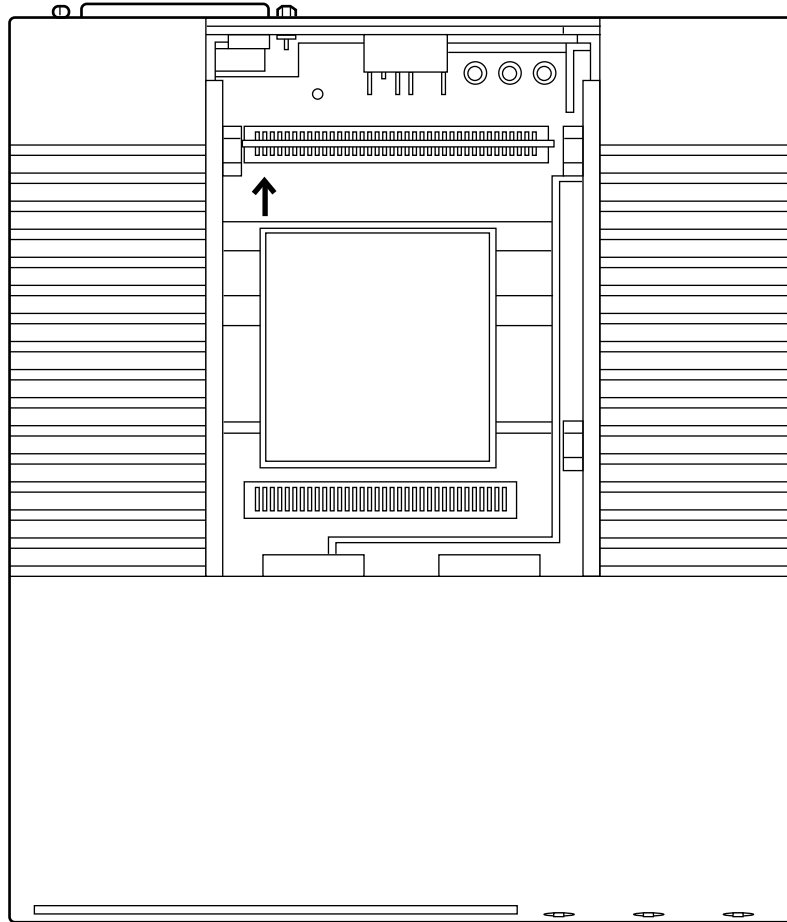

FIGURE 8-9. The Arrow Pointing Toward the DCE/DTE Flip Board
3. Looking straight down at the inside of the 7500 data module, locate the large silver arrow pointing toward the back of the set. See Figure 8-9.